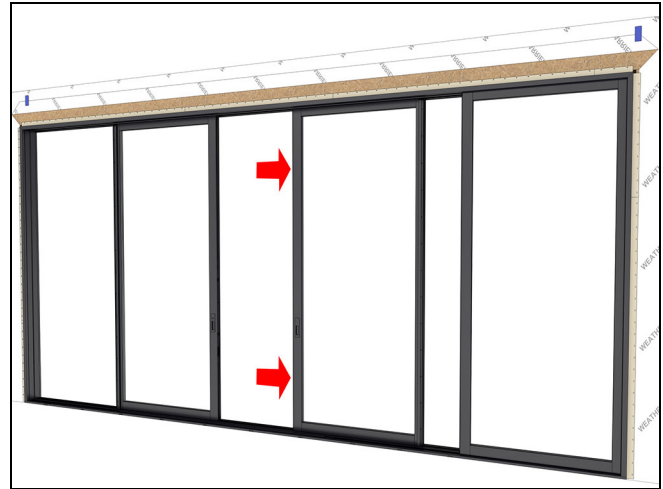

Figure 135
7. Move the (A) operator panel toward the right side jamb about 12" from the (H) stationary panel. See Figure 135.